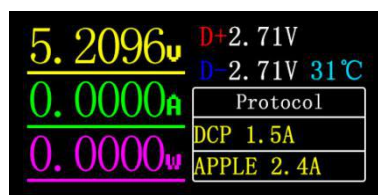

Figure 4
3、 Fast charge identification page (Figure 4)